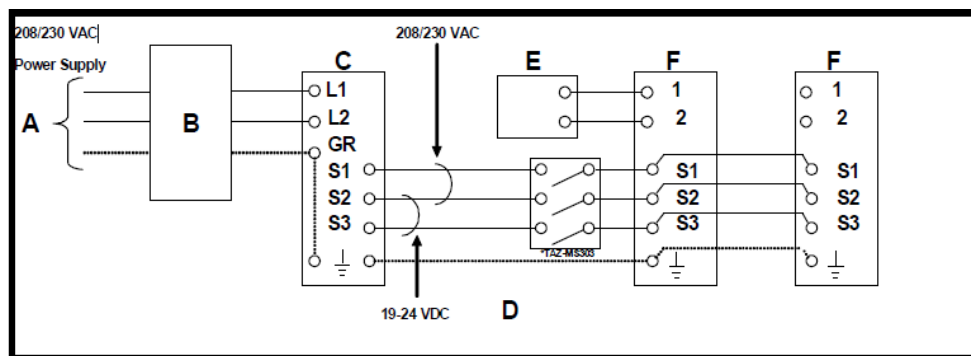

Figure 1. Simultaneous Twin Operation
4. The indoor units must be powered from the outdoor unit in a daisy chain fashion as shown in Figure 1.